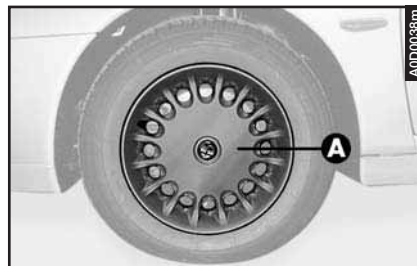

fig. 4
– Remove the wheel cap (**A-fig. 4**) (only for versions with steel rims) levering on the edge with the flat-tipped screwdriver provided in the tool bag.
— Remove the wheel cap (**A-fig. 4**) (if present) levering on the edge with the flat-tipped screwdriver provided in the tool bag.